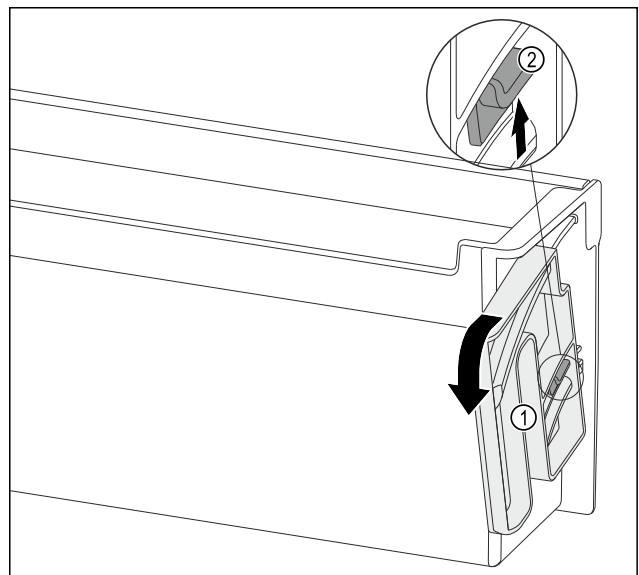

Fig. 141
- ▶ Turn the swivel unit *Fig. 141 (1)* in the specified direction as far as it goes.
- ▶ Push the tab *Fig. 141 (2)* up and remove the swivel unit *Fig. 141 (1)*.